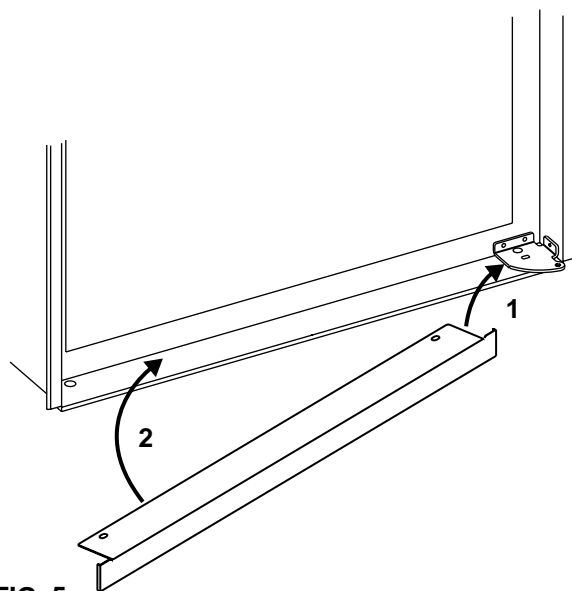

FIG. 5
1. Install the lower front strip by sliding it under the bottom hinge plate, as shown in FIG. 5. The hinge plate can be on the right or left side depending on the door swing.